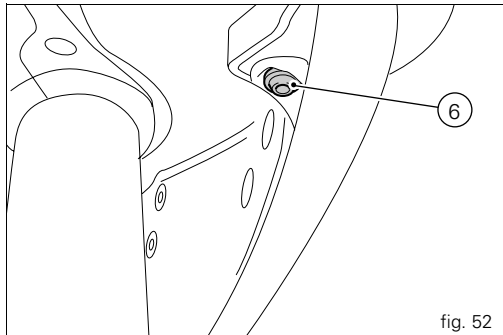

fig. 52
- the two bolts (1) securing the fairing panels to the brackets;
- the six bolts (2) securing the fairing panels to the headlight fairing;
- the four bolts (3) securing the fairing panels to the frame;
- the two bolts (4) located under the fairing that join the right fairing panel to the left fairing panel;
- the two bolts (5) securing the fairing panels to the oil cooler;
- the two bolts (6, fig. 52) securing the front of the fairing to the headlight fairing.